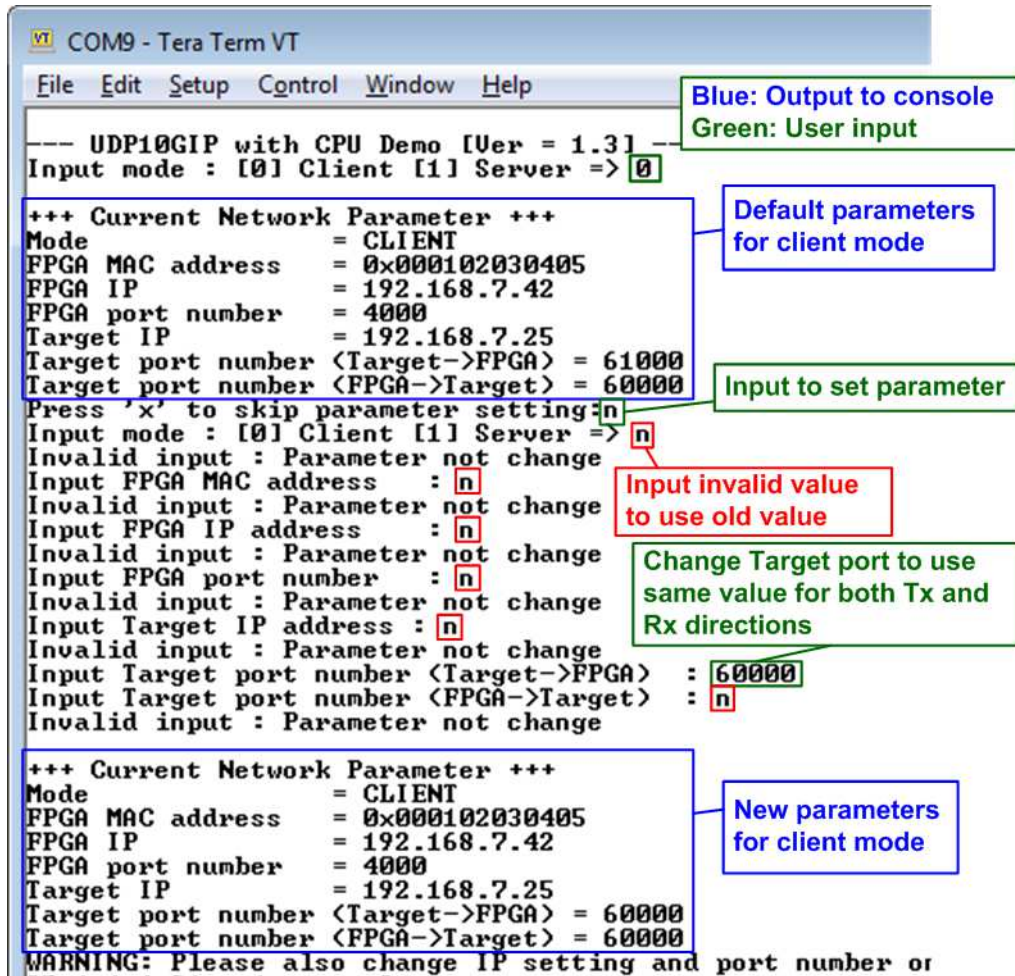

Figure 7-2 Modify default parameter in client mode
- b. For client mode, user must change target port number (Target->FPGA) to use same value as target port number (FPGA->Target), as shown in Figure 7-2.